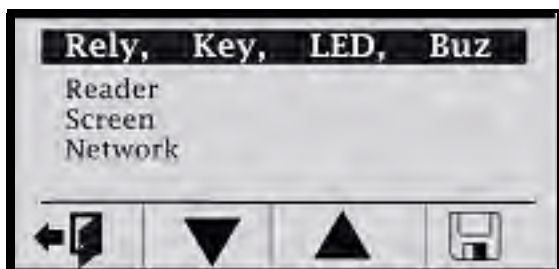

Figure 52: MTX-15 Main Diagnostic Screen
- Step 2.** Press the **enter**  key when the Memory Bank test first appears. After the terminal initializes, the Diagnostic screen will appear with the Relay, Keypad, LED and Buzzer test highlighted as illustrated in **Figure 52**.
Use the Function keys (see **Figure 52**) as indicated underneath the display to move Up ▲ and Down ▼ to highlight the desired test and press **enter**  on the keyboard to advance to the test screen. From this screen, use the **Back**  button to exit diagnostics and return to the main display.